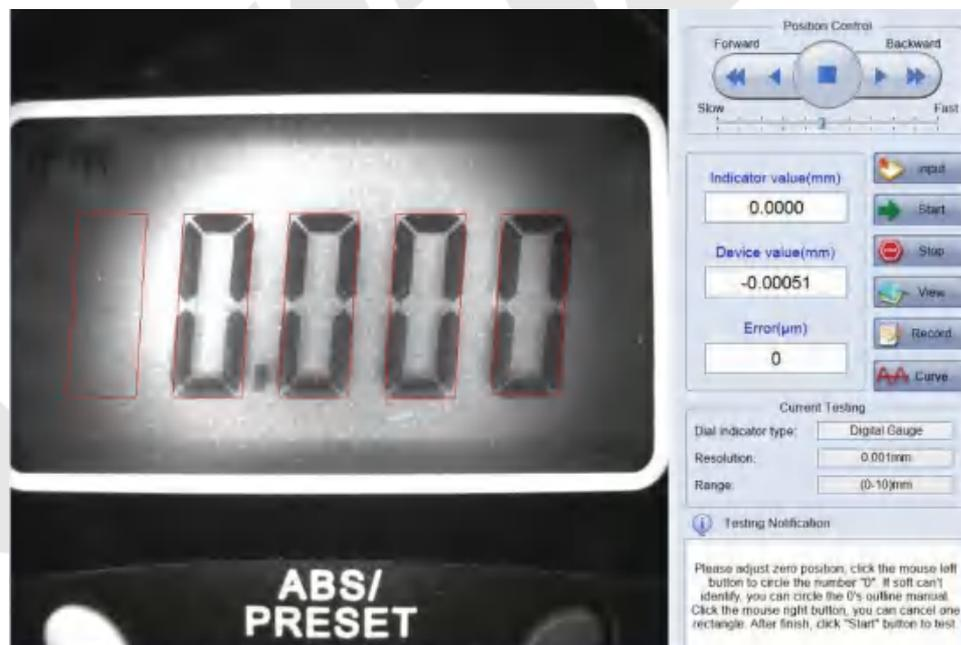

Figure 5-28 Adjusted image of the digital indicator
- Click “OK” to go back to the main window and adjust the image. See figure 5-28.